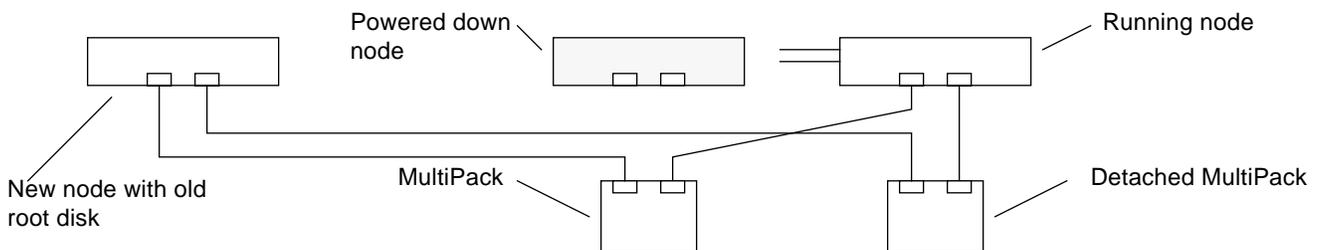

Figure 7-6 Second SCSI Cable Attached to the New Node
14. Physically disconnect the SCSI cable that goes from the detached MultiPack to the powered down node at the powered down node (Figure 7-6).
15. Connect the SCSI cable from the detached MultiPack to the new node (Figure 7-6).